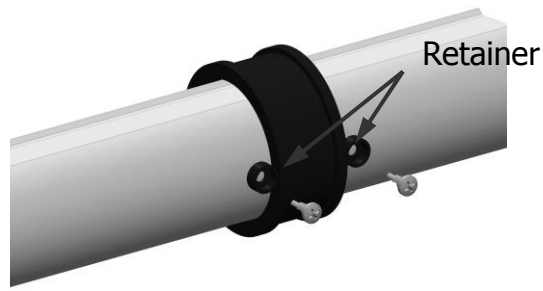

Figure 10
1. Install the strap bushing to the axle. Line up the bushing with the tarp return and the strap return guide. Lock in position using the provided strap bushing retainers as shown in figure 10.